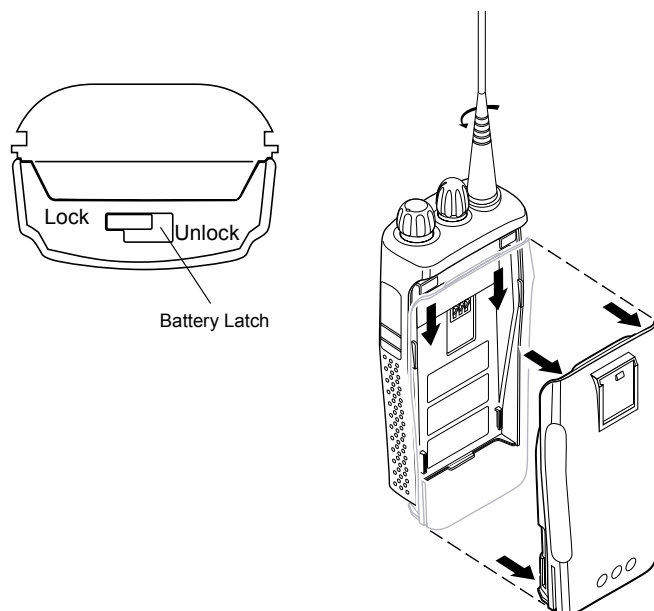

Figure 6-1. Battery Removal
2. Remove the battery (Figure 6-1):